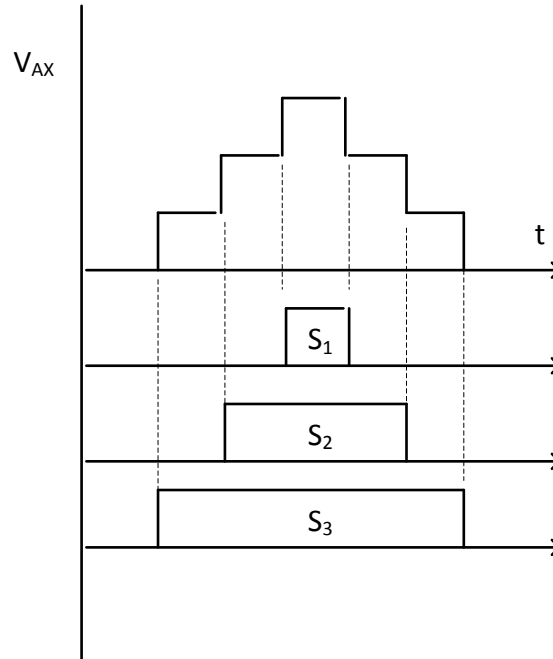

Fig.4: Output Voltage V_{AX}
- Fig. 4 shows the one leg of Inverter (total three legs of three phase)